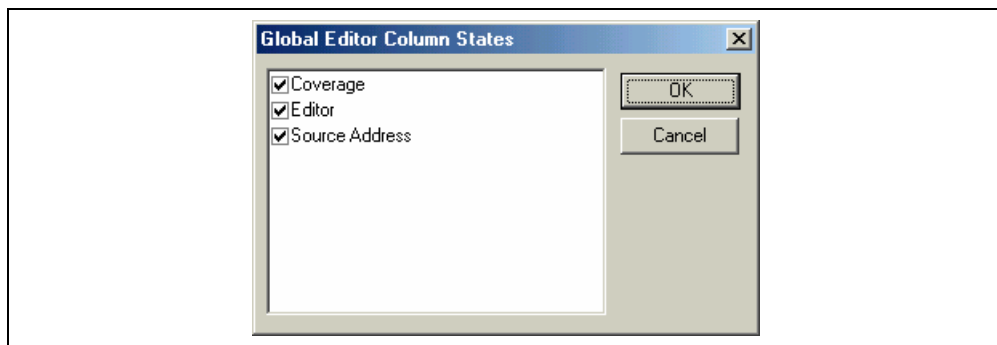

Figure 4.17: Global column state Dialog
3. The “Global Editor Column States” dialog is displayed (figure 4.17).